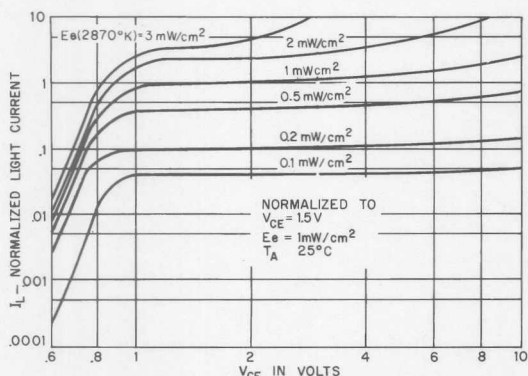
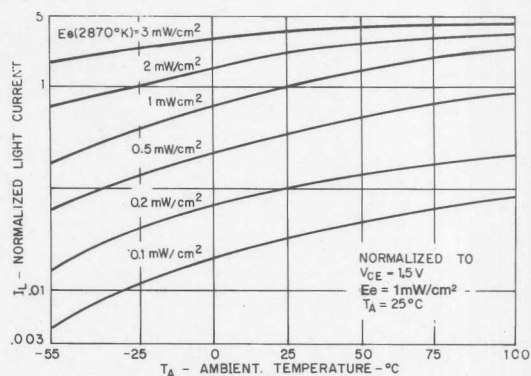

Fig. 1. Light Current vs. Collector-Emitter Voltage
Fig. 2. Light Current vs. Ambient Temperature
- Figure 1 and figure 2 use light source of tungsten lamp at 2870°K color temperature. A GaAs source of 3.0 mW/cm² is approximately equivalent to a tungsten source, at 2870°K, of 10 mW/cm².